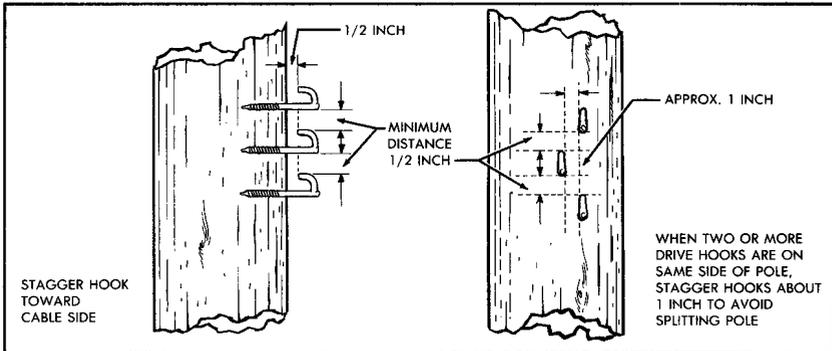

FIGURE 8. Positioning Several Drive Hooks On Same Side Of Pole
7.02 When placing more than one drive hook on the same side of the pole, stagger the hooks as shown in Figure 8: Where possible, obtain greater than the minimum vertical separation between hooks.